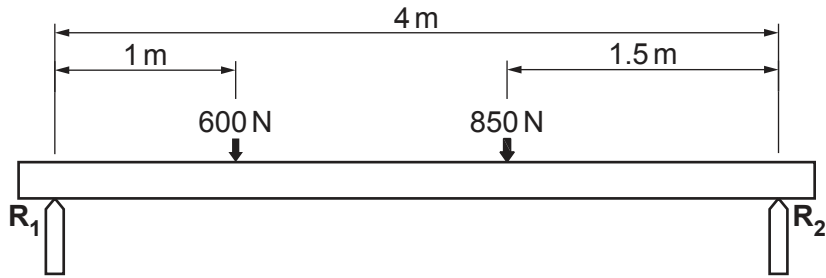

Fig. 10.5
- (e) Fig. 10.5 shows a beam with two loads applied to it.